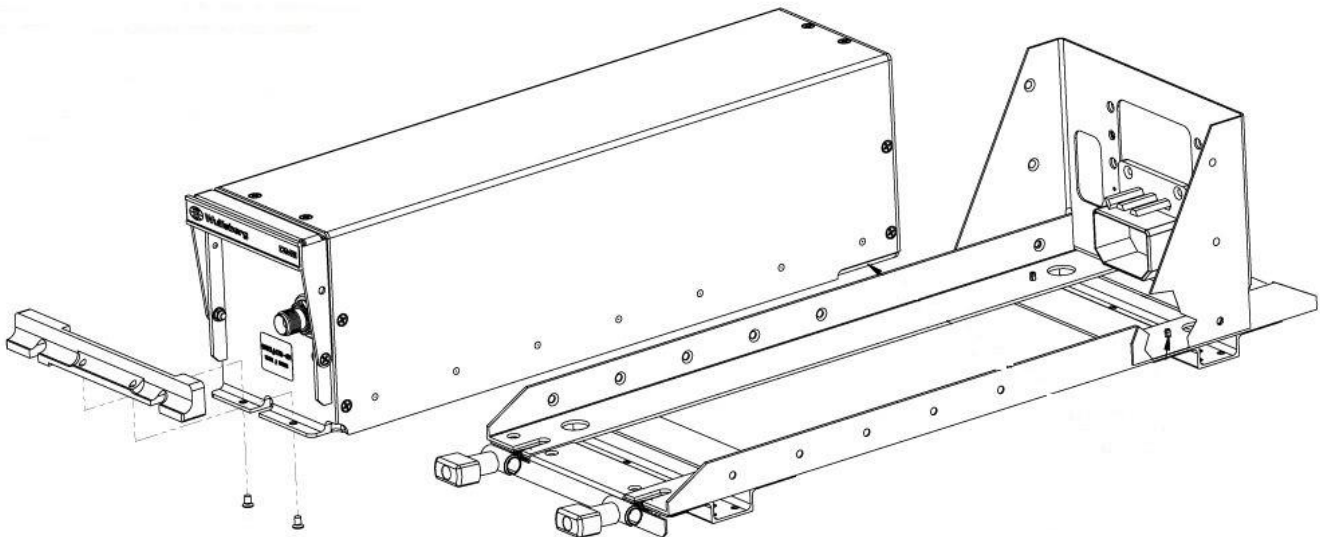

Figure 1 – Orientation of tray adapter bracket and screws
1. Position adapter bracket, PN 146-041754-01, onto the front flange of the CDM-451 as shown in Figure 1.